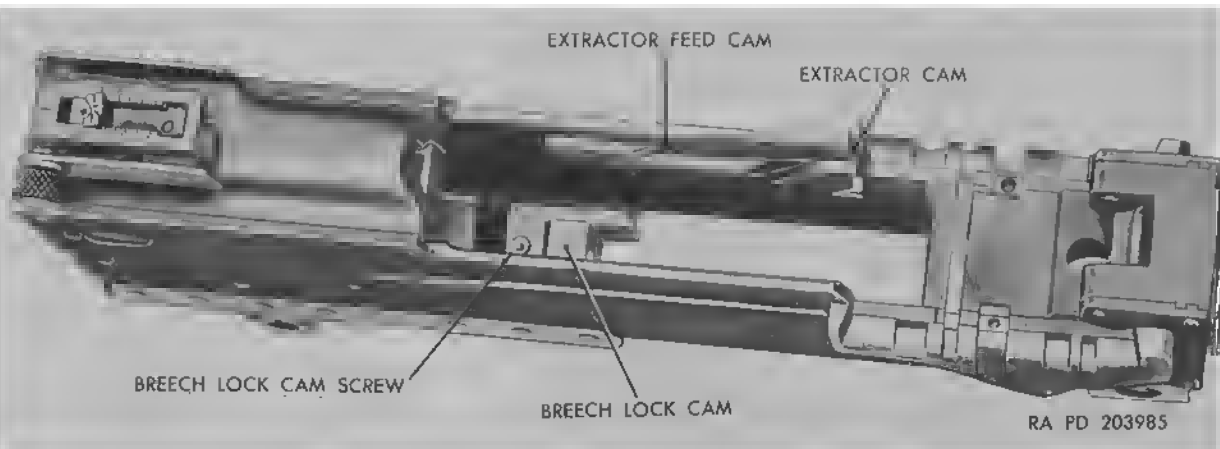

Figure 57. Casing group.
e. Extractor Cam and Extractor Feed Cam. The extractor cam and extractor feed cam (fig. 57), are riveted to the left side plate of the casing.